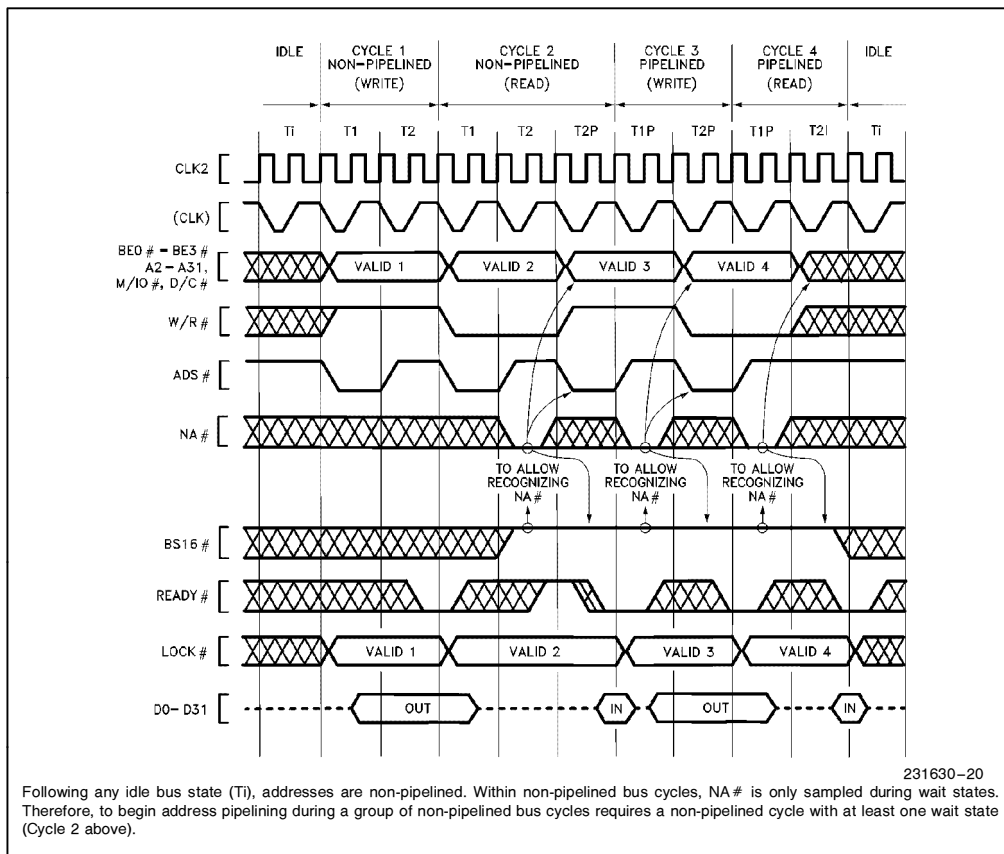
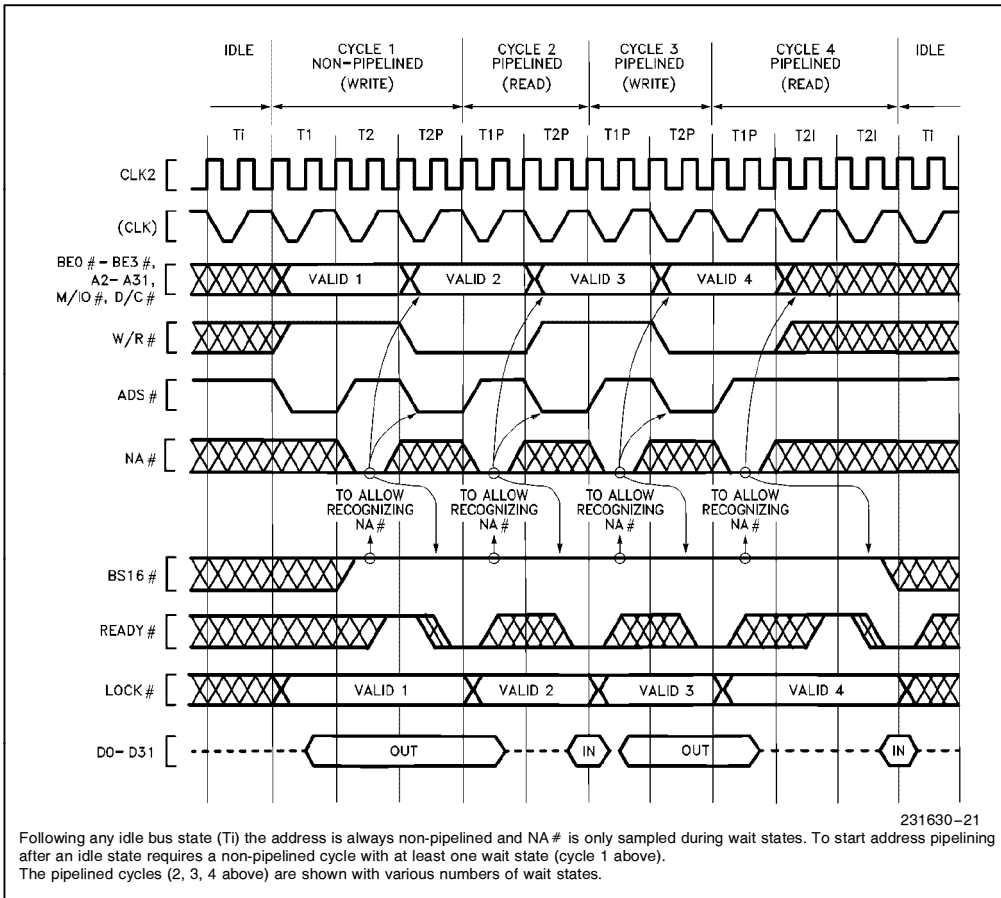
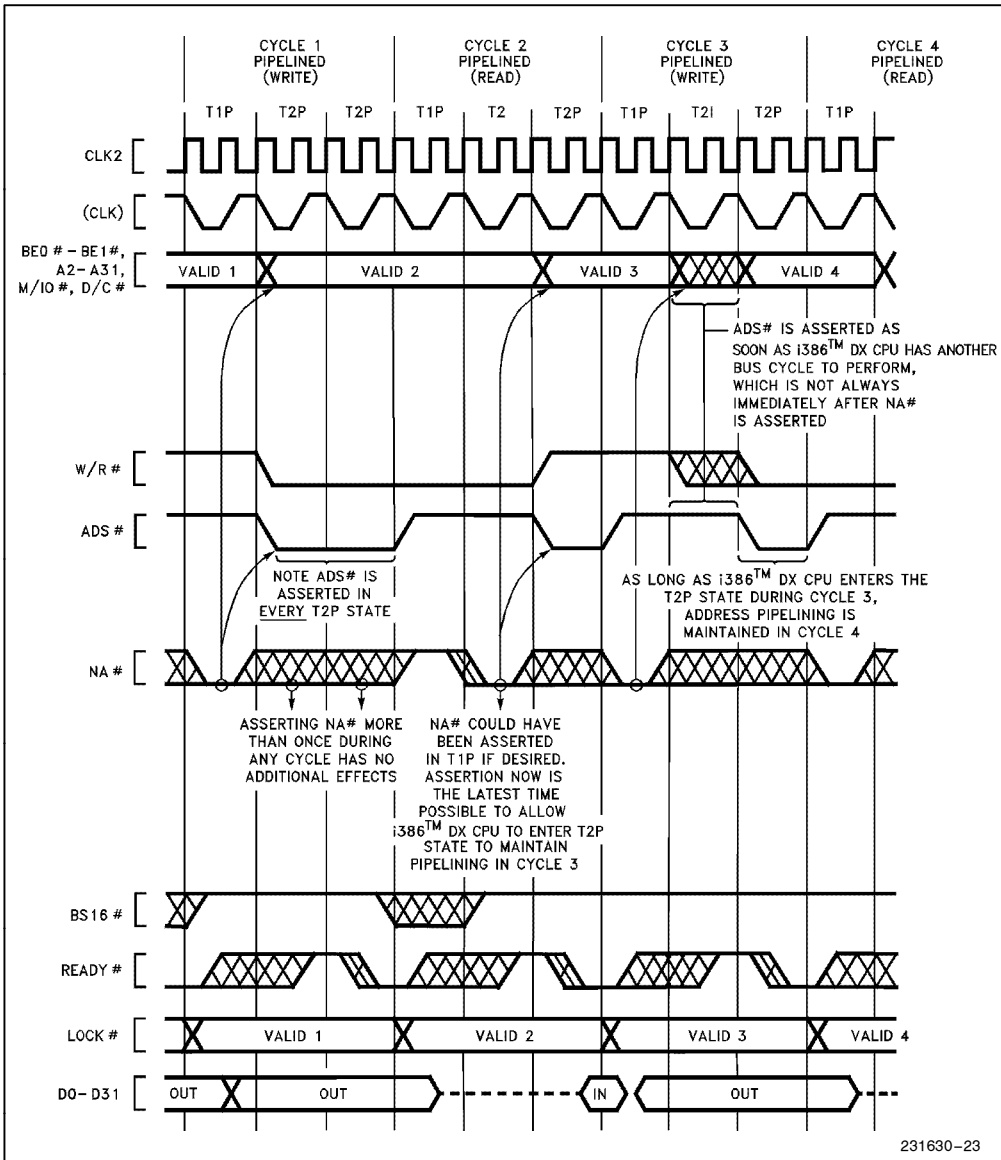

Figure 5-16. Transitioning to Pipelined Address During Burst of Bus Cycles
Figure 5-17. Fastest Transition to Pipelined Address Following Idle Bus State
Figure 5-19. Details of Address Pipelining During Cycles with Wait States
Once a bus cycle is in progress and the current address has been valid for at least one entire bus state, the **NA#** input is sampled at the end of every phase one until the bus cycle is acknowledged. During non-pipelined bus cycles, therefore, **NA#** is sampled at the end of phase one in every T2. An example is Cycle 2 in Figure 5-16, during which **NA#** is sampled at the end of phase one of every T2 (it was asserted once during the first T2 and has no further effect during that bus cycle).
- 1) For **NA#** to be sampled asserted, **BS16#** must be negated at that sampling window (see Figure 5-16 Cycles 2 through 4, and Figure 5-17 Cycles 1 through 4). If **NA#** and **BS16#** are both sampled asserted during the last T2 period of a bus cycle, **BS16#** asserted has priority. Therefore, if both are asserted, the current bus size is taken to be 16 bits and the next address is not pipelined.
- 2) The next address may appear as early as the bus state after NA# was sampled asserted (see Figures 5-16 or 5-17). In that case, state T2P is entered immediately. However, when there is not an internal bus request already pending, the next address will not be available immediately after NA# is asserted and T2l is entered instead of T2P (see Figure 5-19 Cycle 3). Provided the current bus cycle isn't yet acknowledged by READY# asserted, T2P will be entered as soon as the Intel386 DX does drive the next address. External hardware should therefore observe the ADS# output as confirmation the next address is actually being driven on the bus.
must assume the current bus size is 32 bits. Therefore if NA# is sampled asserted within a bus cycle, BS16# must be negated thereafter in that bus cycle (see Figures 5-16, 5-17, 5-19). Consequently, do not assert NA# during bus cycles which must have BS16# driven asserted. See 5.4.3.6 Dynamic Bus Sizing with Pipelined Address.
- 4) Any address which is validated by a pulse on the Intel386 DX ADS# output will remain stable on the address pins for at least two processor clock periods. The Intel386 DX cannot produce a new address more frequently than every two processor clock periods (see Figures 5-16, 5-17, 5-19).
- 5) Only the address and bus cycle definition of the very next bus cycle is available. The pipelining capability cannot look further than one bus cycle ahead (see Figure 5-19 Cycle 1).
The transition to pipelined address is shown functionally by Figure 5-17 Cycle 1. Note that Cycle 1 is used to transition into pipelined address timing for the subsequent Cycles 2, 3 and 4, which are pipelined. The NA# input is asserted at the appropriate time to select address pipelining for Cycles 2, 3 and 4.
Once a bus cycle is in progress and the current address has become valid, the NA# input is sampled at the end of every phase one, beginning with the next bus state, until the bus cycle is acknowledged. During Figure 5-17 Cycle 1 therefore, sampling begins in T2. Once NA# is sampled asserted during the current cycle, the Intel386 DX is free to drive a new address and bus cycle definition on the bus as early as the next bus state. In Figure 5-16 Cycle 1 for example, the next address is driven during state T2P. Thus Cycle 1 makes the transition to pipelined address timing, since it begins with T1 but ends with T2P. Because the address for Cycle 2 is available before Cycle 2 begins, Cycle 2 is called a pipelined bus cycle, and it begins with T1P. Cycle 2 begins as soon as READY# asserted terminates Cycle 1.
Example transition bus cycles are Figure 5-17 Cycle 1 and Figure 5-16 Cycle 2. Figure 5-17 shows transition during the very first cycle after an idle bus state, which is the fastest possible transition into address pipelining. Figure 5-16 Cycle 2 shows a transition cycle occurring during a burst of bus cycles. In any case, a transition cycle is the same whenever it occurs: it consists at least of T1, T2 (you assert NA# at that time), and T2P (provided the Intel386 DX has an internal bus request already pending, which it almost always has). T2P states are repeated if wait states are added to the cycle.
Note three states (T1, T2 and T2P) are only required in a bus cycle performing a **transition** from non-pipelined address into pipelined address timing, for example Figure 5-17 Cycle 1. Figure 5-17 Cycles 2, 3 and 4 show that address pipelining can be maintained with two-state bus cycles consisting only of T1P and T2P.
Once a pipelined bus cycle is in progress, pipelined timing is maintained for the next cycle by asserting NA# and detecting that the Intel386 DX enters T2P during the current bus cycle. The current bus cycle must end in state T2P for pipelining to be maintained in the next cycle. T2P is identified by the assertion of ADS#. Figures 5-16 and 5-17 however, each show pipelining ending after Cycle 4 because Cycle 4 ends in T2I. This indicates the Intel386 DX didn't have an internal bus request prior to the acknowledgement of Cycle 4. If a cycle ends with a T2 or T2I, the next cycle will not be pipelined.